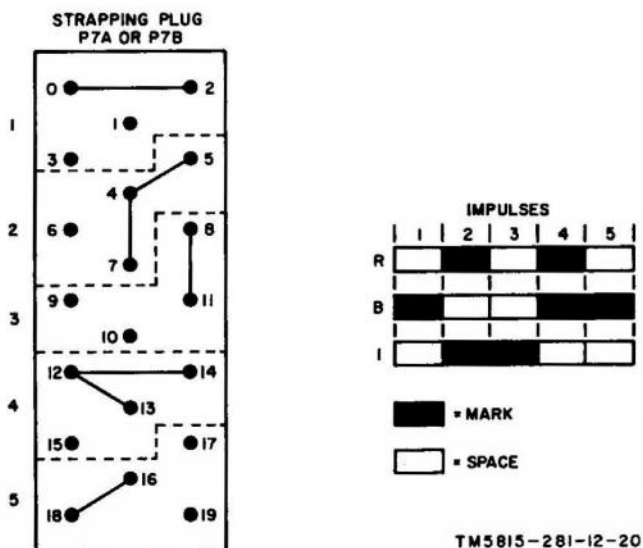

Figure 20. Channel-designating letters RBI strapped into plug P7A or P7B.
h. The chart below and the plug wired in figure 20 are arranged for the channel designating letters R, B, and I.